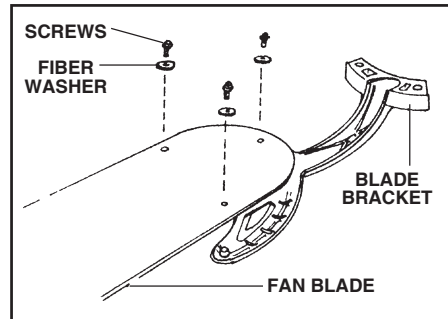

FIG. 15
Step 1. Attach the fan blade to the blade bracket using the screws and the fiber washers provided. Tighten screws securely. Repeat for remaining blades. (Fig. 15)